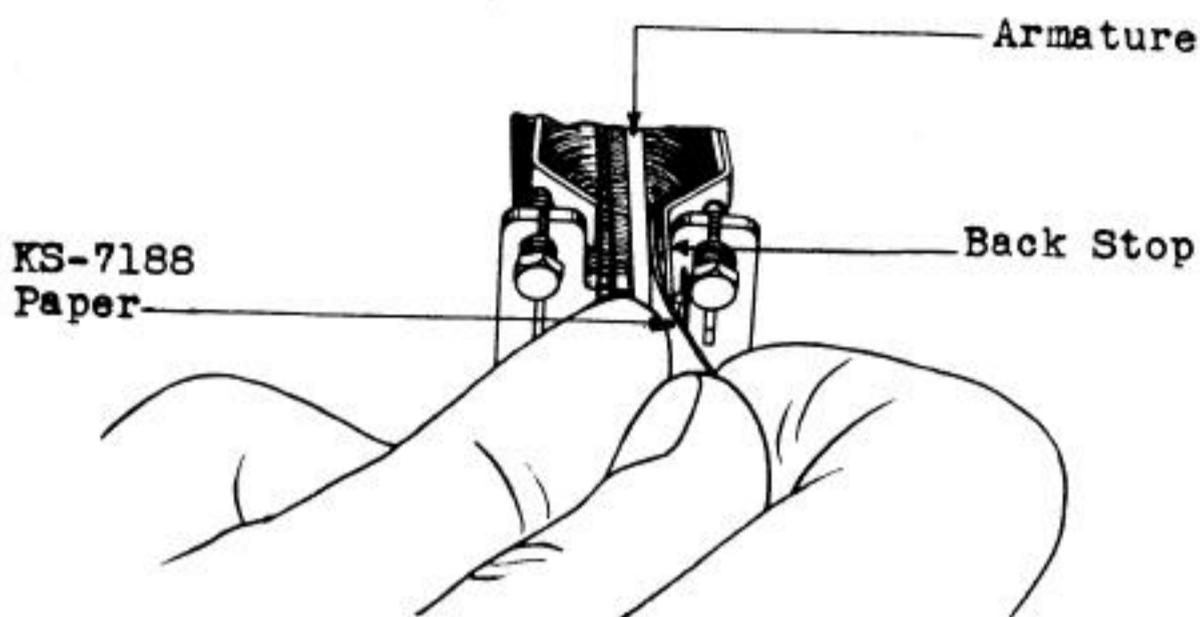

Fig. 33 - Method of Cleaning Front and Back Stops on B, G and J Type Relays
6.13 Clean the front and back stops with a piece of KS-7188 paper as shown in Fig. 33 while holding the armature operated or unoperated as required.